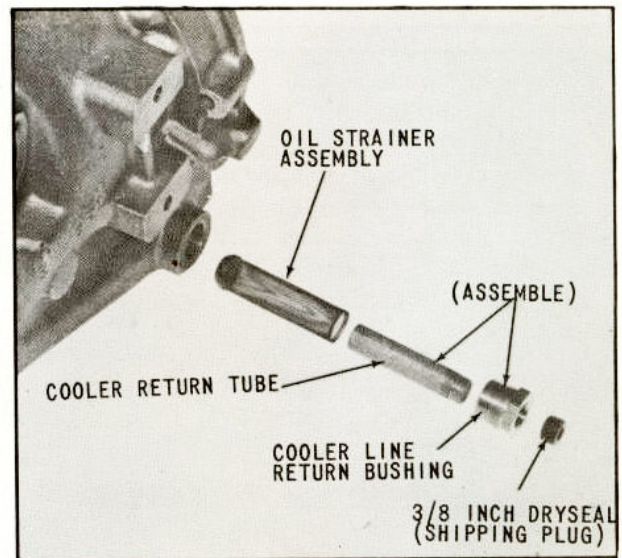
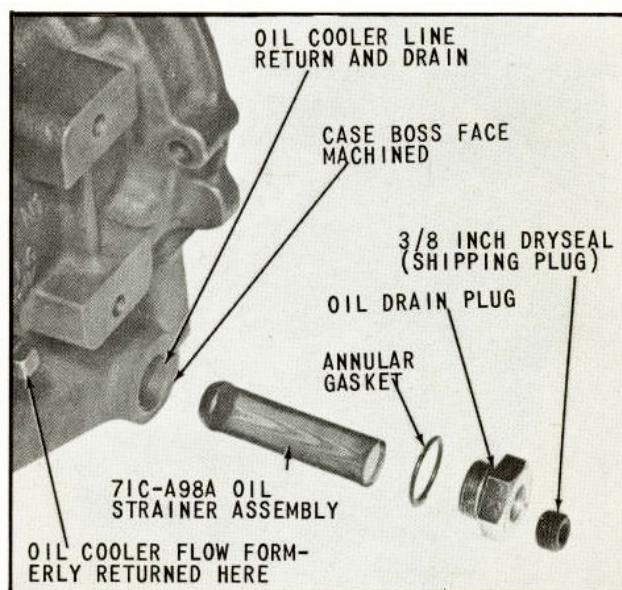

Fig. 74 Installing Oil Strainer & Cooler Return Tube & Bushing Assembly
Fig. 83 Installation of Oil Strainer Assembly and Cooler Line Return Bushing
80. Assemble the oil strainer assembly, cooler line return bushing and cooler return tube assembly in the order shown in (Fig. 74). The screen end of the oil strainer assembly should be approximately 1/2 inch below the face of the case when the assembly is correctly installed.
ly used a cooler return bushing with threads other than the tapered dry-seal pipe threads now used. This installation with the (4885) cooler return bushing, (Fig. 83), required a copper annular gasket (120428) to prevent leakage. Oil strainer (71-A98C) was also formerly used in this assembly, but has now been replaced with oil strainer 71C-A98A, which is fully interchangeable. The two bushings are not interchangeable and the correct parts must be assembled as illustrated in (Fig. 74) or (Fig. 83). Those installations requiring the use of the parts in (Fig. 83) can be easily identified by the machined face on the case boss as indicated.
2. Assemble the oil strainer assembly, annular gasket, and cooler return line bushing in the order shown in (Fig. 83). The end of the strainer will be approximately 7/16 inch below the outside machined surface of the case, when inserted in the case to its full depth. Mount the annular gasket on the cooler return bushing and tighten in the case.